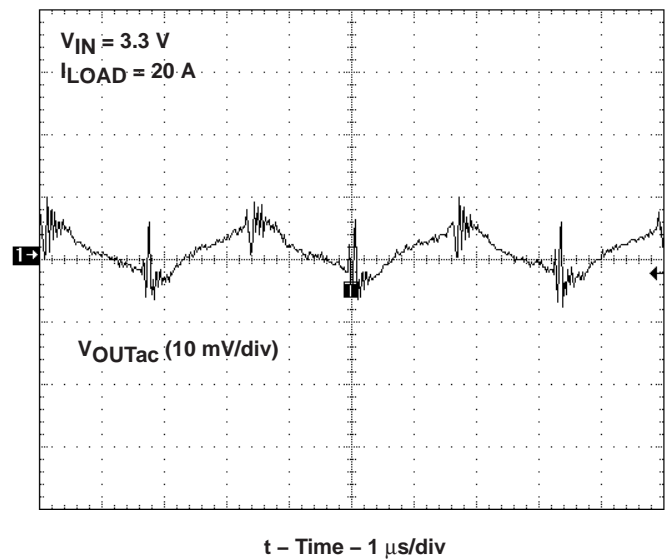
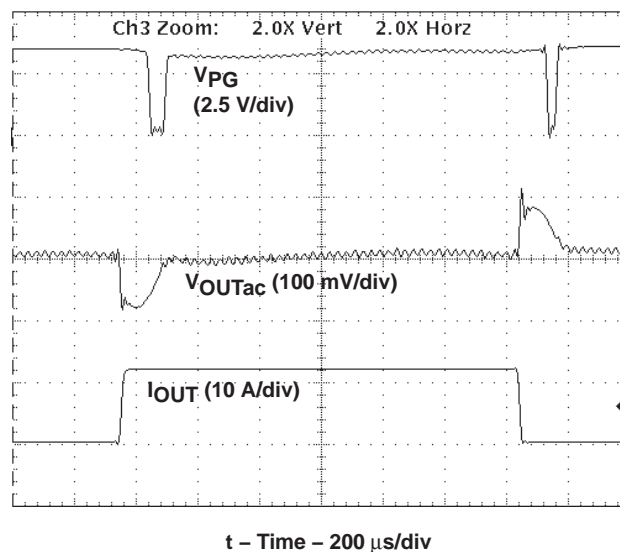

Figure 5. Output Ripple
Figure 6. Transient Response
The output ripple is about 15 mV_{P-P} at 20-A output which is shown in Figure 5. When the load changes from 0 A to 13 A, the overshoot voltage is approximately 80 mV, and the undershoot is approximately 60 mV as shown in Figure 6. When the transient comparator is triggered, the powergood (PG) signal goes low.